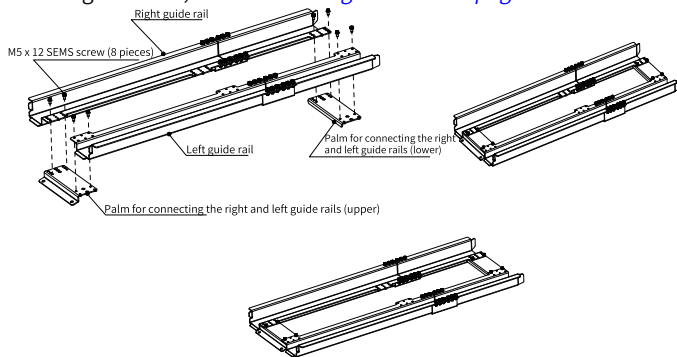

Figure 5-8 Assembling guide rails
a. Assemble the guide rails, as shown in "Figure 5-8 " on page 83 .